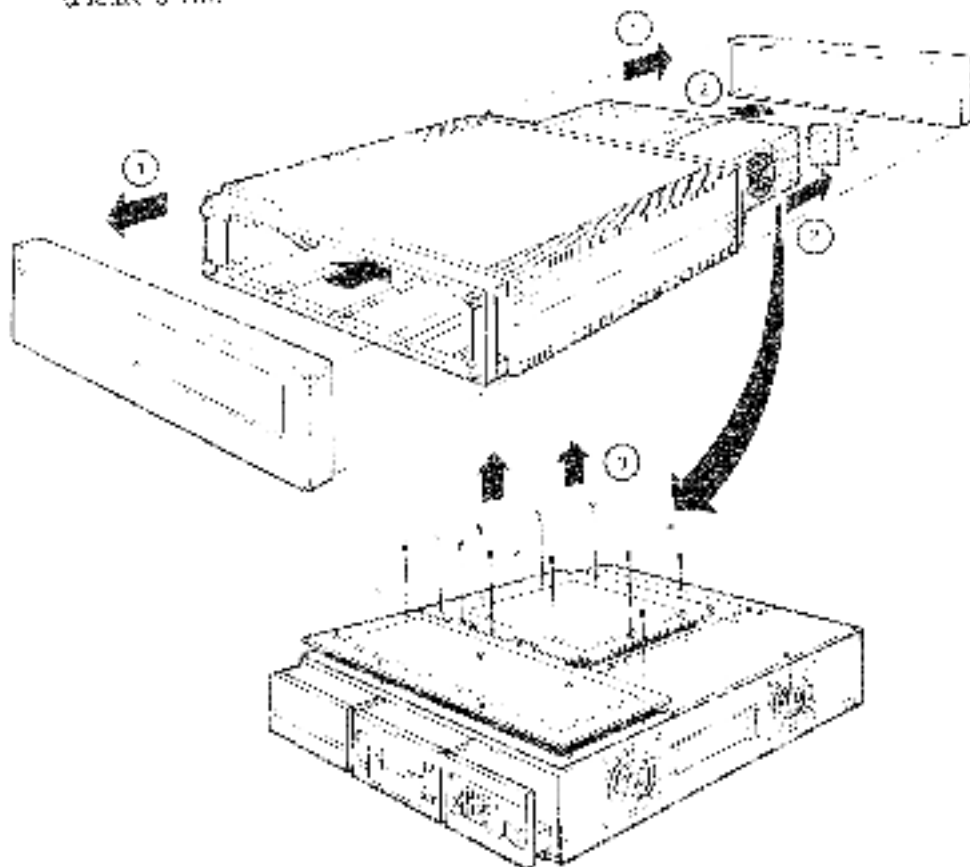

Figure 8-18 Backplane Access
3. Remove both the subsystem storage cover and the Q22 Bus module cover (Figure 8-18).